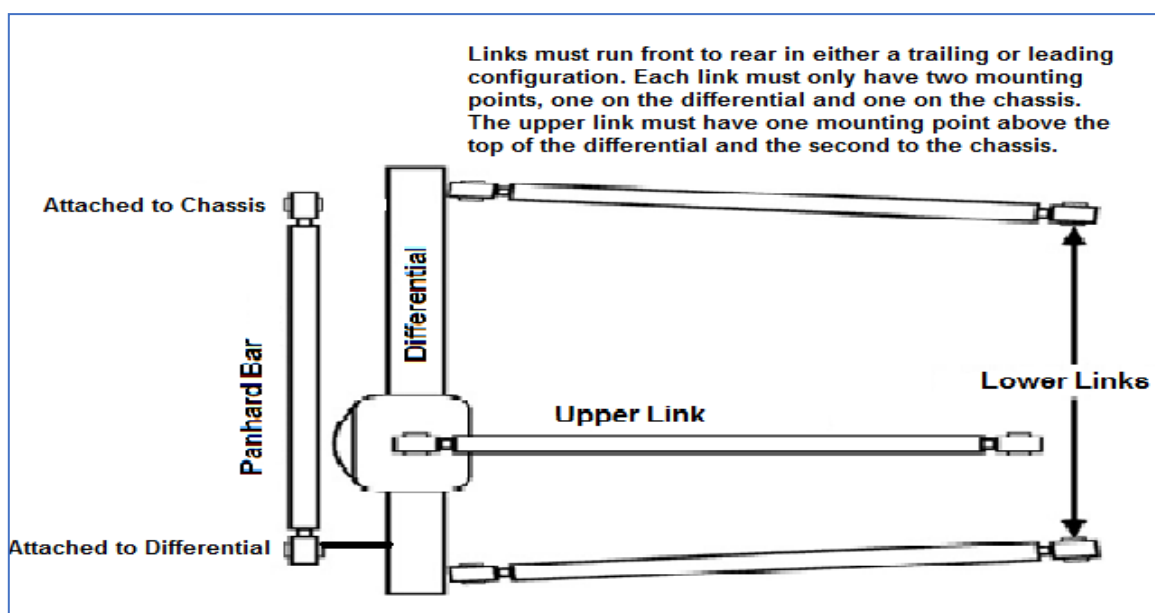

Figure 18
- 25.4 The only rear suspension allowed is the three-link design which consists of two lower control-arms and one upper pull bar. These control the up and down movement of rear end (*Figure 18*). One Panhard bar or J-Bar is allowed for the side to side location of the rear end. No sliding Panhard bar allowed.